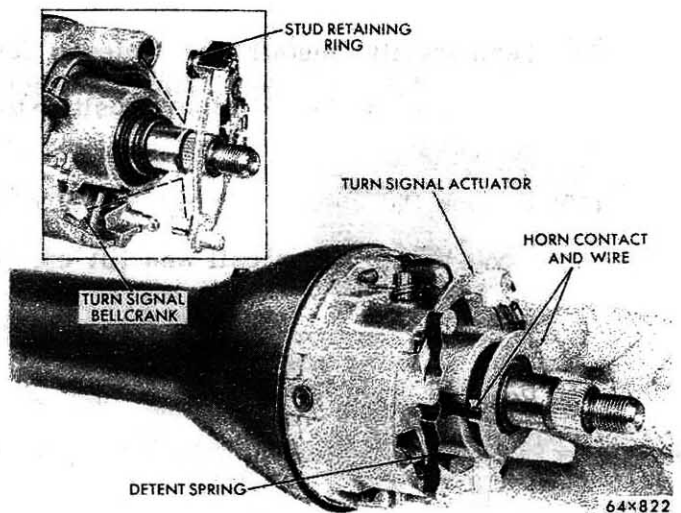

Fig. 22 - Removing or Installing the Horn Contact and Turn Signal Actuator
- (4) Note the routing of the horn contact wire to insure proper assembly, then remove the horn contact and wire assembly, carefully threading the wire out through the top of the column assembly (Fig. 22).
- (5) Remove the turn signal actuator yoke detent spring from the retaining pins.
- (6) Remove the turn signal actuator yoke from the tilt actuator housing by disengaging it at the turn signal bell crank socket and at the retaining stud.